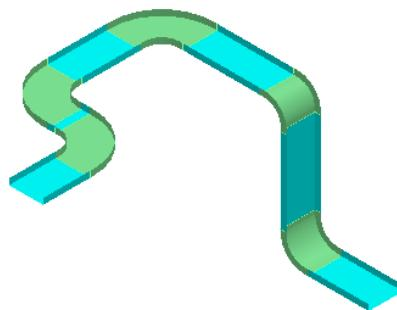

Figure 40: Routed Second Cableway
30. Click in the graphic view to place a **5 ft** cableway tray going south. Right-click to terminate the **Route Cableway** command. The routed cableway should resemble Figure 40.